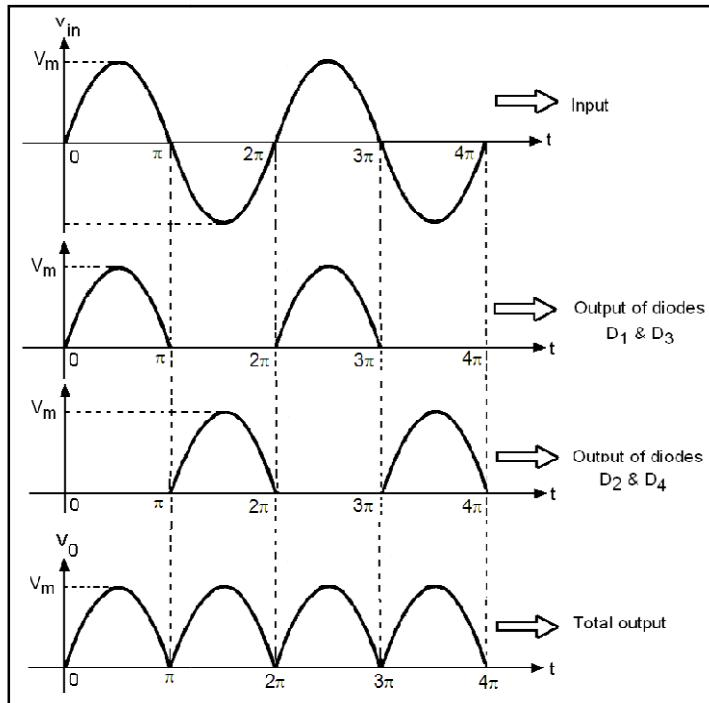

Fig. 1.9(b)
During positive half cycle of a.c input voltage, terminal A is positive with respect to B. The diodes  $D_1$  and  $D_3$  are forward biased and  $D_2$  and  $D_4$  are reverse biased. This makes the diodes  $D_1$  and  $D_3$  are conducting and the diodes  $D_2$  and  $D_4$  are non conducting. The current flows through the secondary winding, diode  $D_1$ , load resistor  $R_L$  and diode  $D_3$  as shown in fig. 1.9(a).
flows through the secondary winding, diode D2, load resistor RL and diode D4 as shown in fig. 1.9(a).
**\*Note:** The output wave forms are exactly the same as that obtained for the centre tap full wave rectifier circuit as shown in fig. 1.9(b).